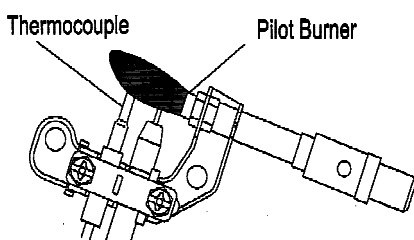
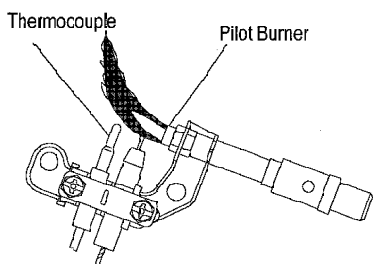
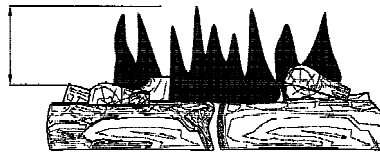

Figure 11 -Correct Pilot Flame Pattern
Figure 12 -Incorrect Pilot Flame Pattern
Figure 14-Incorrect Flame Pattern with Control Knob Set to High Flame
1. Press the IGN/OFF button.(see figure 11)
Figure 11 shows a correct pilot flame pattern. Figure 12 shows an incorrect pilot flame pattern. The incorrect pilot flame is not touching the thermocouple. This will cause the thermocouple to cool. When the thermocouple cools, the heater will shut down. If pilot flame pattern is incorrect, as shown in Figure 14